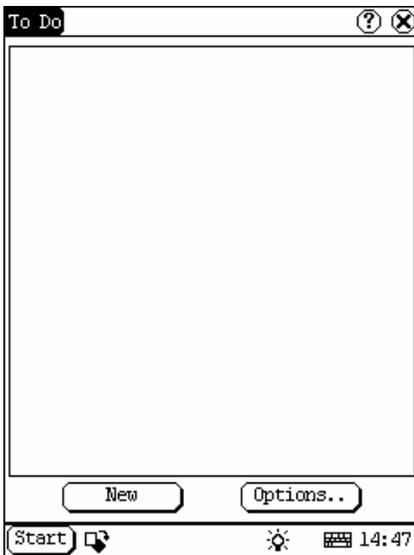

Figure 4-26
- 4) Display interface. (See Figure 4-26)